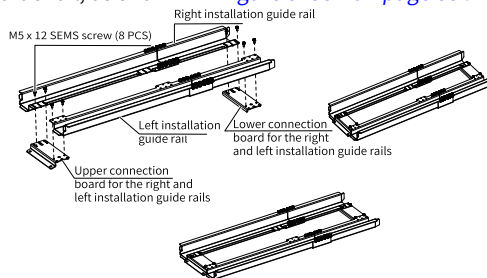

Figure 5-38 Assembling guide rails
a. Assemble the guide rail, as shown in "Figure 5-38 " on page 88 .